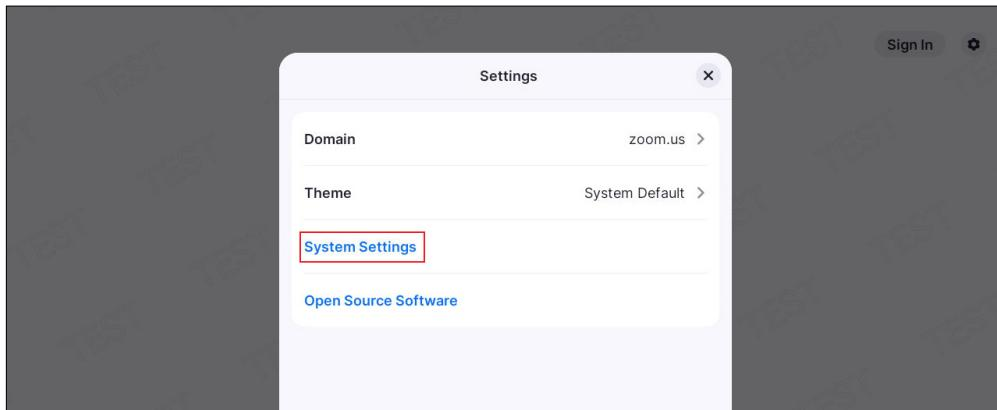

Figure 8. Settings Menu
Click **System Settings** (see figure 8, ①).